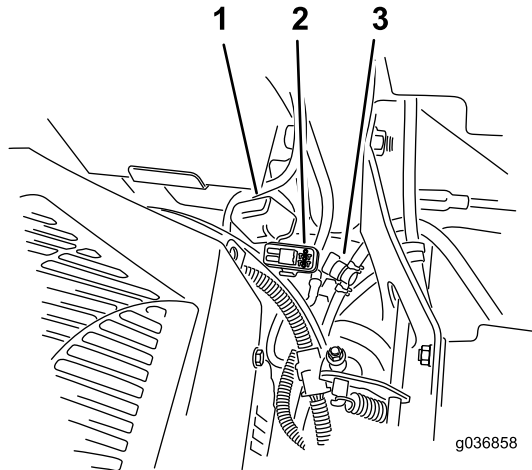

Figure 55
**Note:** For MyRide machines, ensure that the ground cable does not rub against the trailing arm or lower shock mount (Figure 55).
The fuses are located on the right console next to the seat (Figure 55).
2. Install a new fuse (Figure 55).